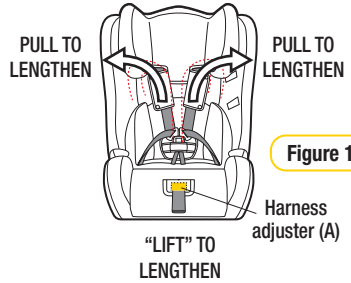

Figure 1
- Step 2:** To lengthen the harness “LIFT” the harness adjuster (A) (refer Figure 1) whilst grasping both shoulder harness straps and pulling. Ensure shoulder straps are pulled equally on each side.